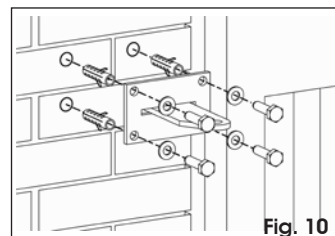

Fig. 10
- ii- Secure all the items on the pilaster using adequate securing systems (Fig. 10).